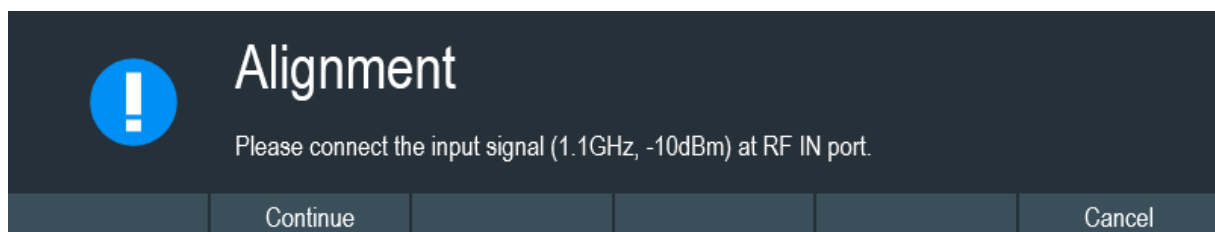

Figure 4-4: Input signal for frequency clock alignment
3. Select "Yes" to overwrite existing default alignment data and proceed to perform alignment. The R&S Spectrum Rider displays the "Alignment" dialog. Depending on the selected alignment item, different input signal is required. See Figure 4-4 and Figure 4-5.